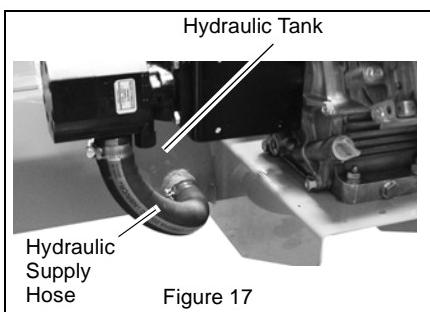

Figure 17
3. Remove hose clamp and disconnect hose from hydraulic tank. See figure 17.